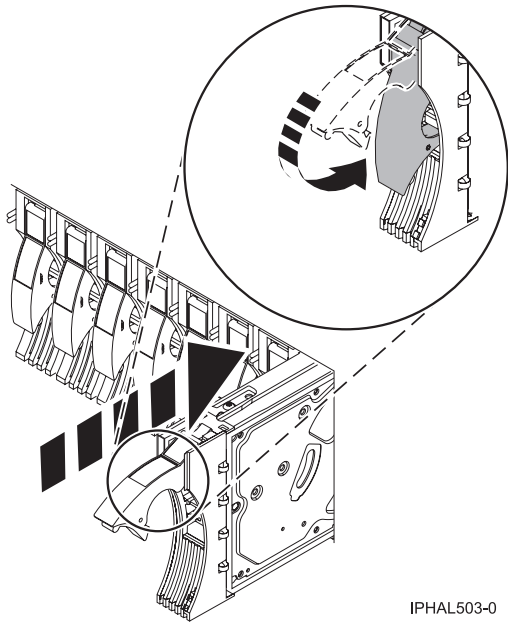

Figure 43. Installing a disk drive in a model
7. Push the disk drive handle in until it locks, as shown in Figure 43 on page 58.